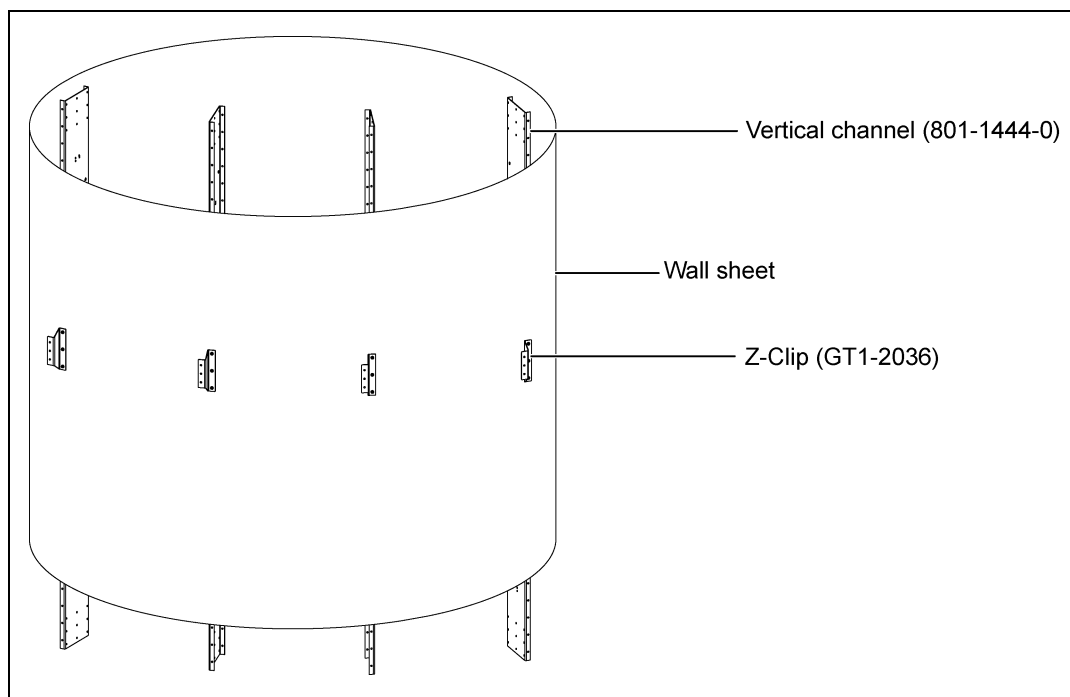
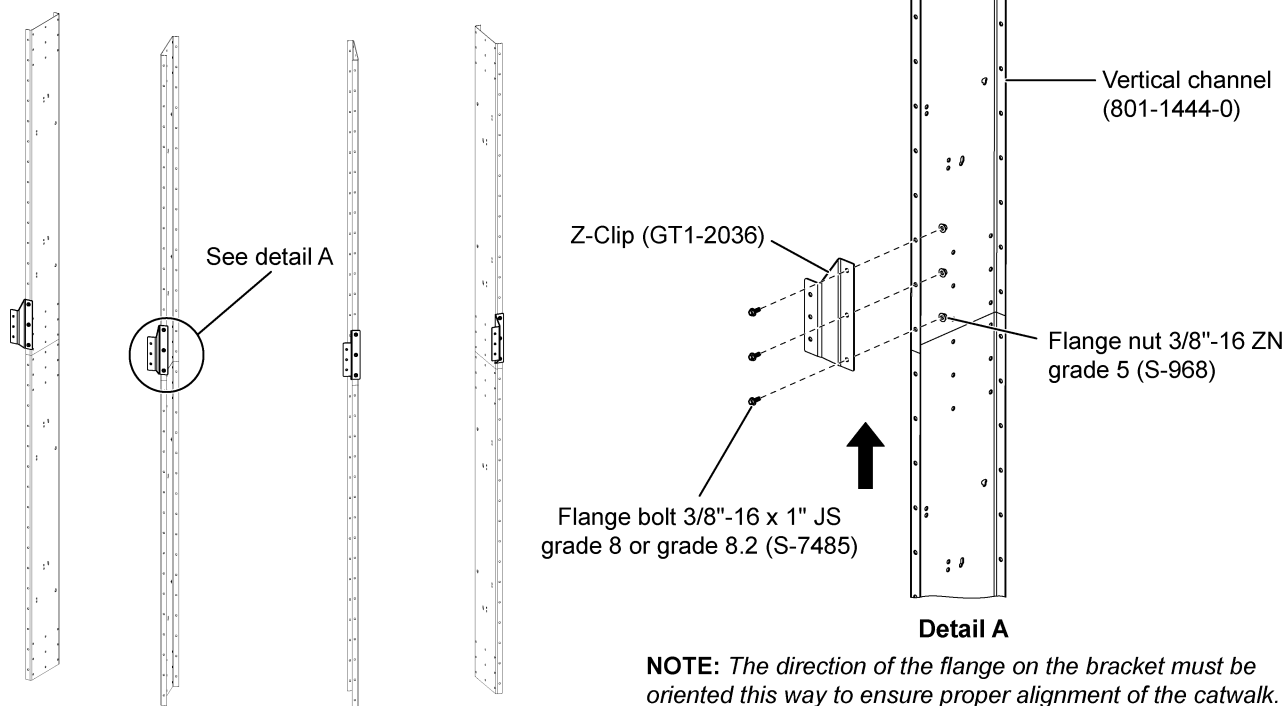
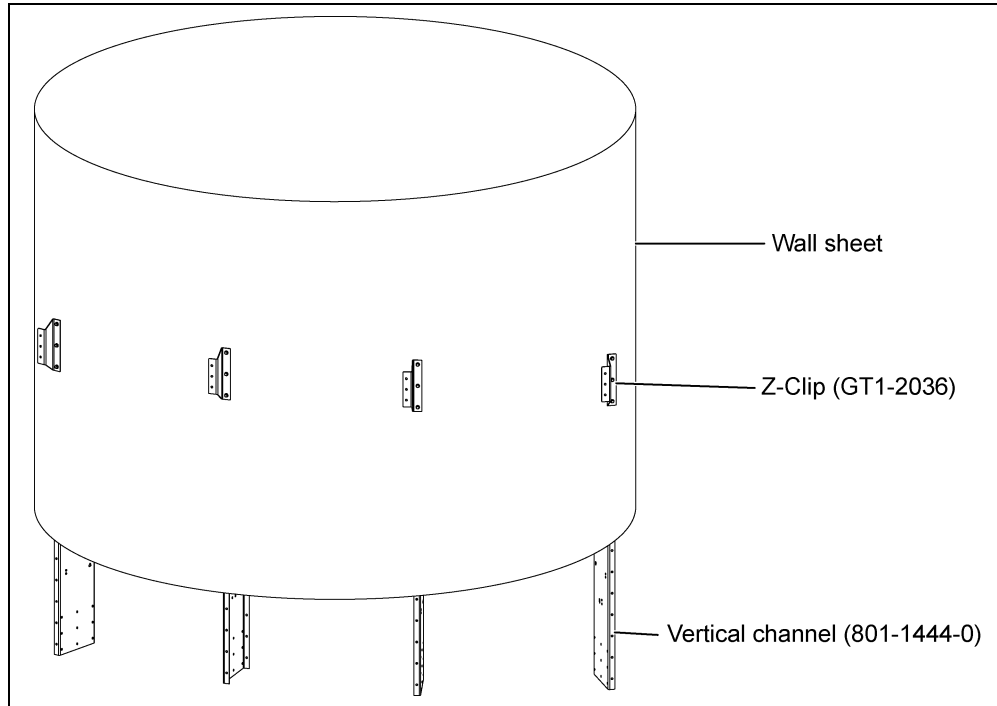
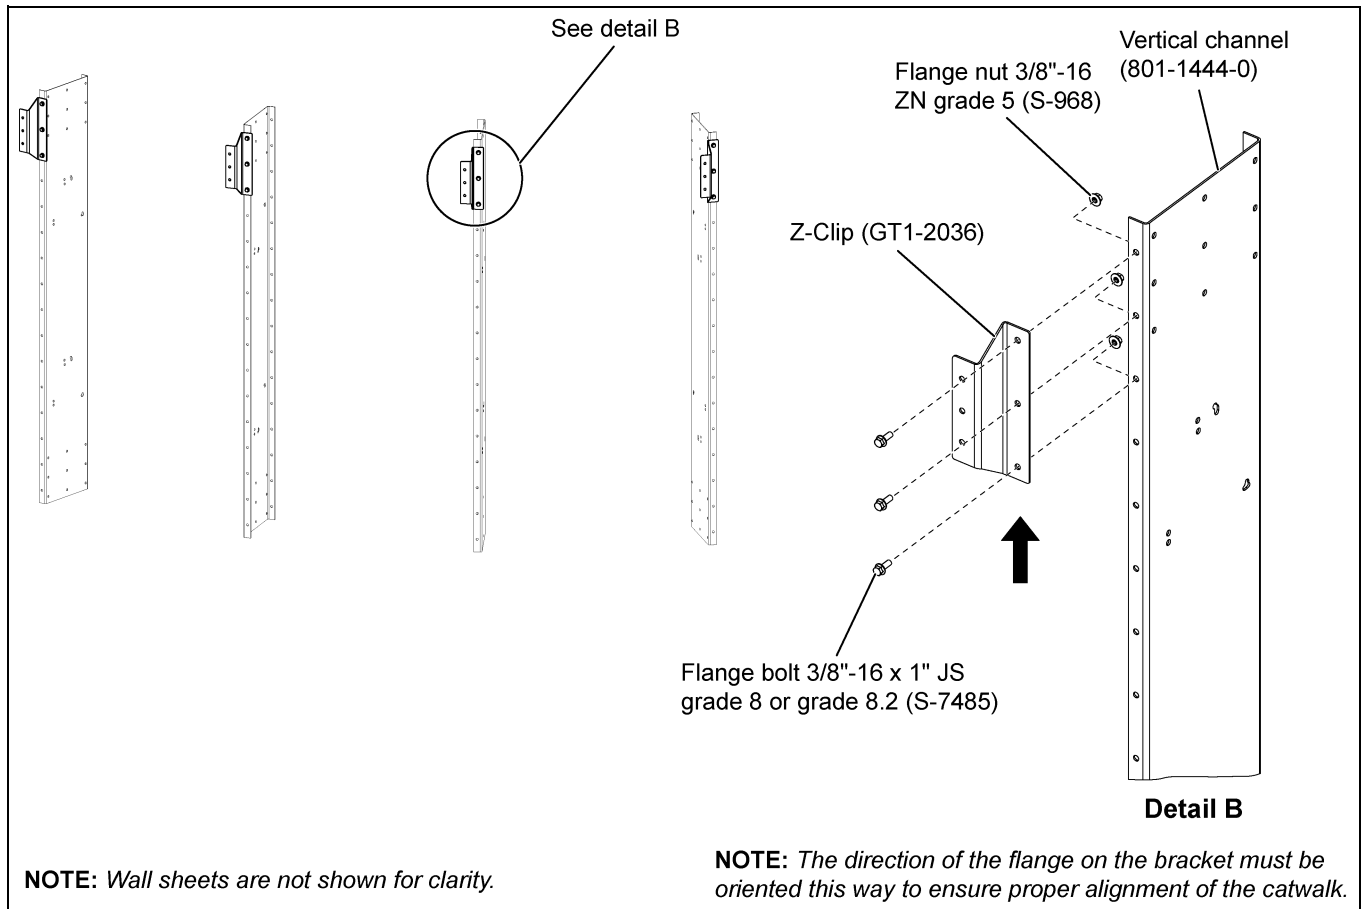

Figure 6A Offset Z-Clip Installation
Figure 6B Offset Z-Clip Installation
Figure 6C Roof Hatch Z-Clip Installation
Figure 6D Roof Hatch Z-Clip Installation
1. Bolt Z-clips (GT1-2036) to vertical channels (801-1444-0). The Z-clip can be installed on each vertical channel as wall sheets are installed using 3/8"-16 x 1" JS grade 8 or grade 8.2 bolts (S-7485) and 3/8"-16 ZN grade 5 nuts (S-968). (See Figure 6A, Figure 6B below, Figure 6C and Figure 6D on Page 49.)